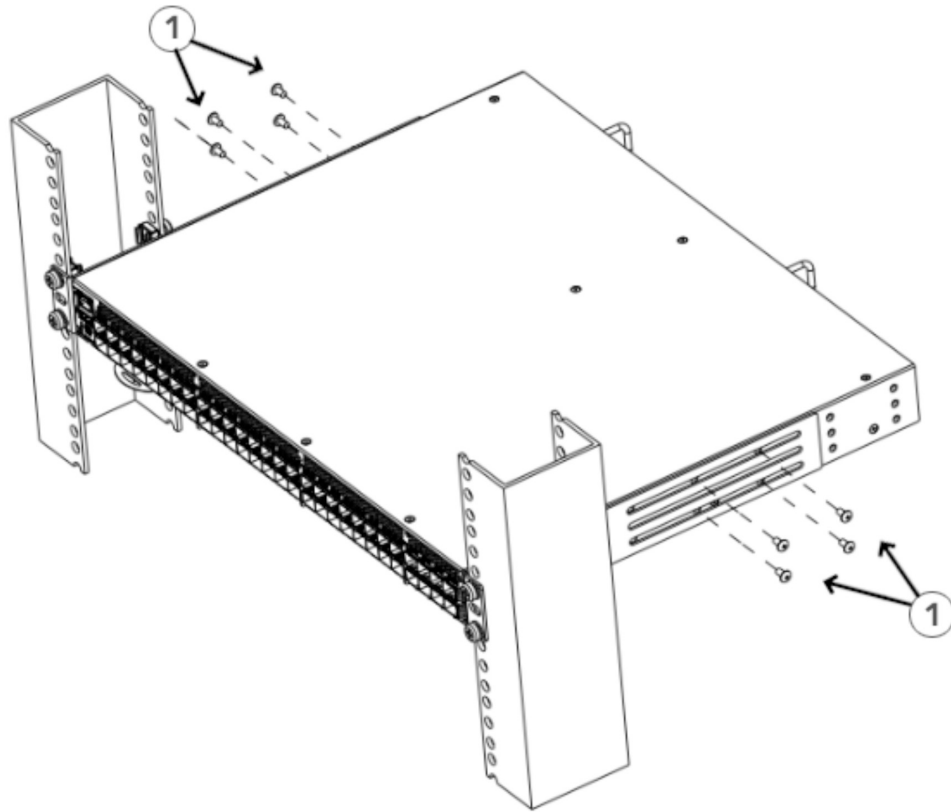

Figure 19. Attaching the Rear Brackets to the Device
1. Align the right rear bracket to the right rear of the device and use four 8-32 x 5/16-in. panhead screws to attach the bracket to the device, as shown in Figure 19. Be sure to insert the screws through the upper and lower slots in the bracket.